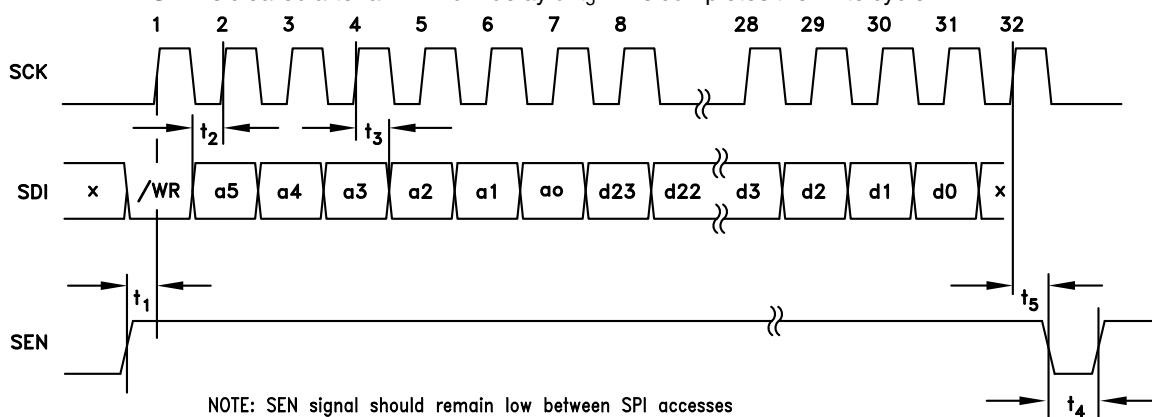
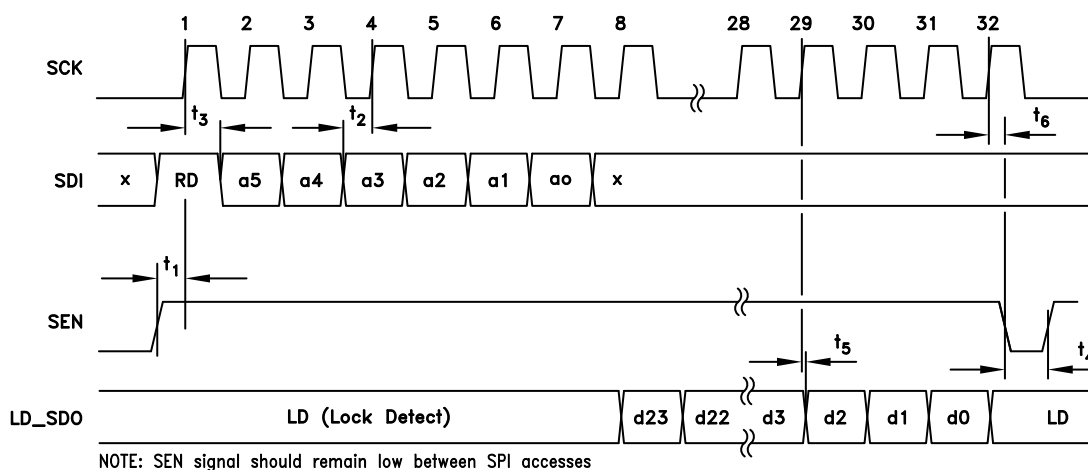

Figure 24. HMC Mode - Serial Port Timing Diagram Write
Figure 25. HMC Mode - Serial Port Timing Diagram - READ
The HMC Mode protocol, shown in Figure 24 and, Figure 25 is designed for a 4 wire interface with a fixed protocol featuring
A typical HMC Mode WRITE cycle is shown in Figure 24.
A typical HMC Mode READ cycle is shown in Figure 25.
- The Master (host) asserts both SEN (Serial Port Enable) and SDI to indicate a READ cycle, followed by a rising edge SCLK. Note: The Lock Detect (LD) function is usually multiplexed onto the LD_SDO pin. It is suggested that LD only be considered valid when SEN is low. In fact LD will not toggle until the first active data bit toggles on LD_SDO, and will be restored immediately after the trailing edge of the LSB of serial data out as shown in Figure 25.
- The slave (HMC1035LP6GE) reads SDI on the 1st rising edge of SCLK after SEN. SDI high initiates the READ cycle (RD)
The HMC1035LP6GE communicates with the internal VCO subsystem via an internal 16 bit VCO Serial Port, (e.g. see Figure 25). The internal serial port is used to control the step tuned VCO and other VCO subsystem functions, such as RF output divider / doubler control and RF buffer enable.